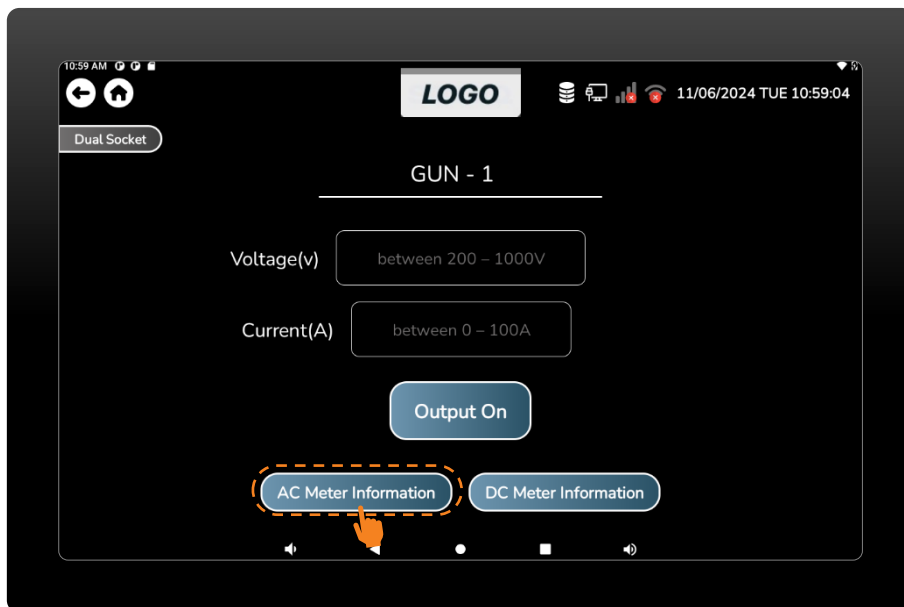

Figure 24 Press the AC Meter Information button.
- Pressing the AC Meter Information button will open the AC information screen. (Figure 24)